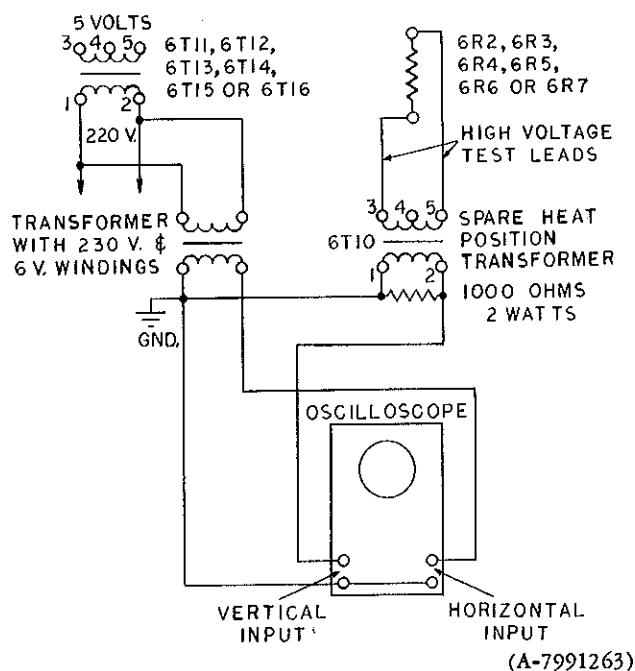

Fig. 39 Quarter-Phasing Connections
14. The six GL-869-B mercury vapor rectifiers used in this equipment must be quarter-phased to obtain maximum tube life. This procedure must be followed for each new installation of this equipment. Refer to Fig. 39 for the schematic connection of the equipment required for this adjustment. The oscilloscope used for this procedure may be any service-type unit, since the measurement is made at 60 cycles. The oscilloscope should be checked by applying 6 volts a-c to the vertical and horizontal amplifier inputs simultaneously, and by noting that the presentation on the screen of the oscilloscope is a straight line at an angle of 45 or 135 degrees. This indicates that there is no phase shift in the oscilloscope which will interfere with the accuracy of the following measurements. Most oscilloscopes will meet this requirement.
Insulated test lead wire rated at 10,000 volts should be used in making the following hookup. The leads may be brought from inside the Rectifier cubicle by removing the cover plate over the convenience outlet and feeding the wires through this opening. Disconnect the leads going to 6T10, the SPARE HEAT POSITION transformer and connect as shown in Fig. 39. The leads from terminals 3 and 5 of 6T10 should be long enough to reach all of the six resistors listed. Refer to Fig. 72 for the Elementary Diagram of the Rectifier and Figs. 69 through 71 for the location of
the parts in the cubicle. The other transformer used should be placed on the floor of the Rectifier cubicle, and the leads from the high-voltage winding should be long enough to reach the primaries of the Rectifier filament transformers listed. The oscilloscope should be placed outside the Rectifier cubicle. Be sure to ground the set-up as shown in Fig. 39. Connect the equipment to the resistor and transformer associated with one tube, for example, 6T6 and 6R5.